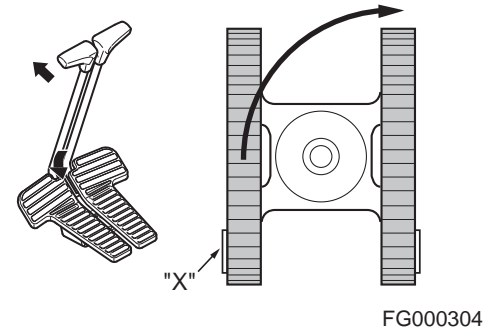

Figure 28
2. Pivot turns (Figure 28) are made by rotating only one track forward or backward. The machine will pivot on the nonmoving track.